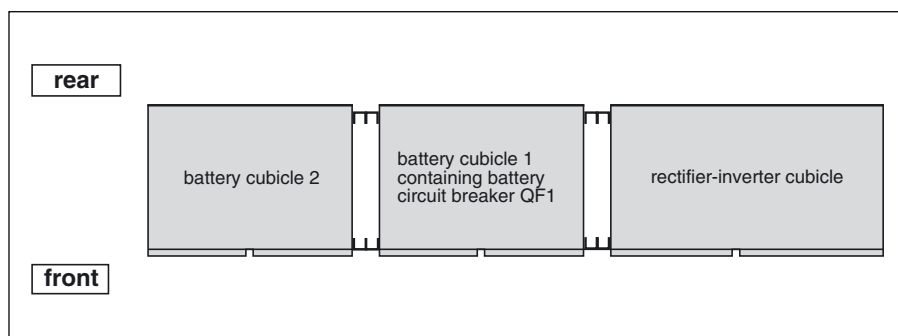

Fig. 7
- for extended battery backup times or high output systems, the UPS may have several battery cubicles (see the table at the end of the previous chapter). If this is the case, install the battery cubicles on the left side of the rectifier-inverter cubicle with the cubicle containing the battery circuit breaker QF1 closest to the rectifier-inverter cubicle (figure 7);